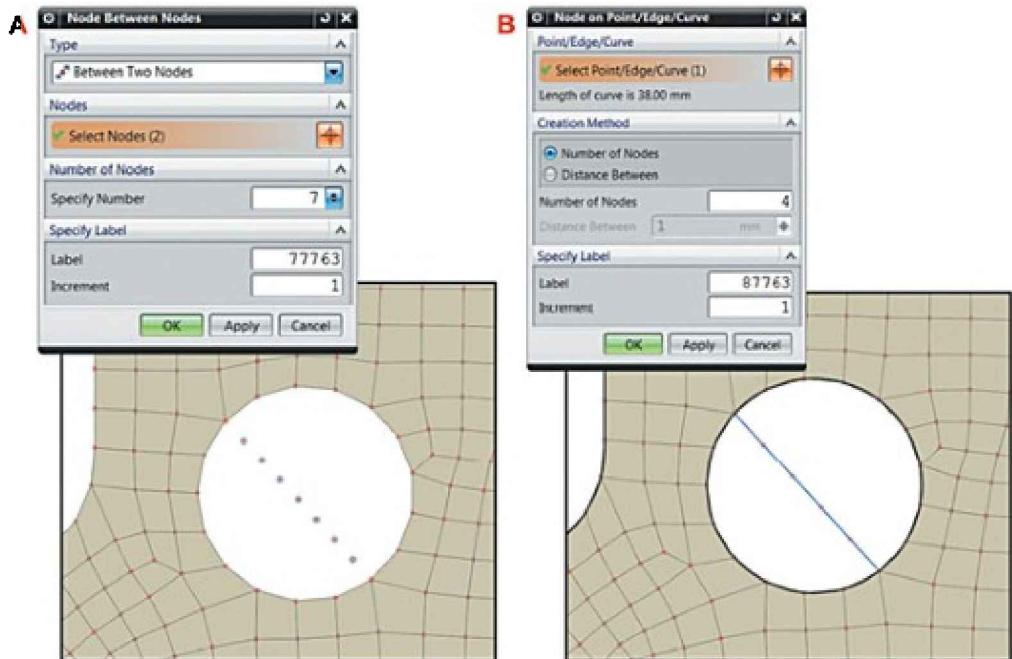

Figure 3.43. Creating nodes
- Use the ***Node Between Nodes*** command to create a certain number of nodes between two selected nodes. Creation of a single node centered relative to three selected nodes is shown in Figure 3.43, A.
- Use the ***Node on Point/Curve/Edge*** command to create several nodes on a selected geometry object. You can specify the quantity of new nodes or the distance between nodes (Figure 3.43, B).